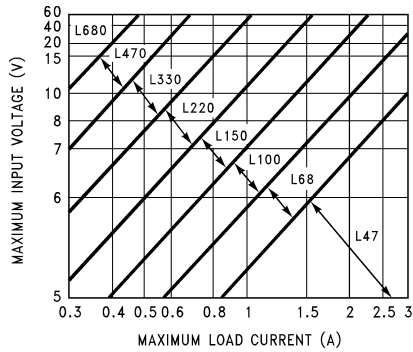
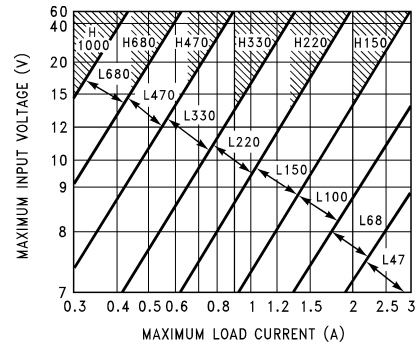
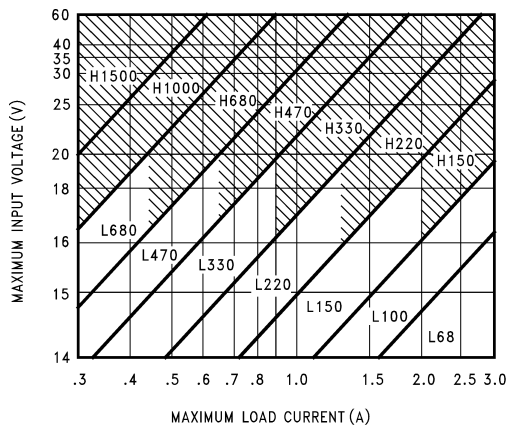
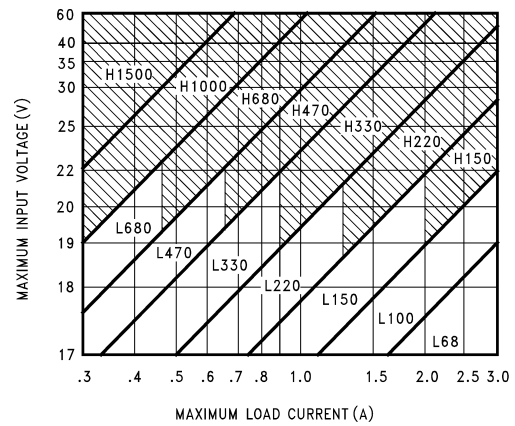

图 8-4. LM2576(HV)-3.3
图 8-5. LM2576(HV)-5.0
图 8-6. LM2576(HV)-12
图 8-7. LM2576(HV)-15
The inductor value selection guides in Figure 8-4 through Figure 8-8 are designed for buck regulator designs of the continuous inductor current type. When using inductor values shown in the inductor selection guide, the peak-to-peak inductor ripple current is approximately 20% to 30% of the maximum DC current. With relatively heavy load currents, the circuit operates in the continuous mode (inductor current always flowing), but under light load conditions, the circuit is forced to the discontinuous mode (inductor current falls to zero for a period of time). This discontinuous mode of operation is perfectly acceptable. For light loads (less than approximately 300 mA), it can be desirable to operate the regulator in the discontinuous mode, primarily because of the lower inductor values required for the discontinuous mode.
1. Select the correct Inductor value selection guide from 图 8-4, 图 8-5, 图 8-6, or 图 8-7. (Output voltages of 3.3 V, 5 V, 12 V or 15 V respectively). For other output voltages, see the design procedure for the adjustable version. Use the selection guide shown in 图 8-5.
- Identify the inductor value from the inductor code, and select an appropriate inductor from the table shown in Figure 8-4. Part numbers are listed for three inductor manufacturers. The inductor chosen must be rated for operation at the LM2576 switching frequency (52 kHz) and for a current rating of  $1.15 \times I_{LOAD}$ . For additional inductor information, see Section 8.1.2. Inductor value required is 100  $\mu\text{H}$  from the table in Figure 8-4. Choose AIE 415-0930, Pulse Engineering PE92108, or Renco RL2444.